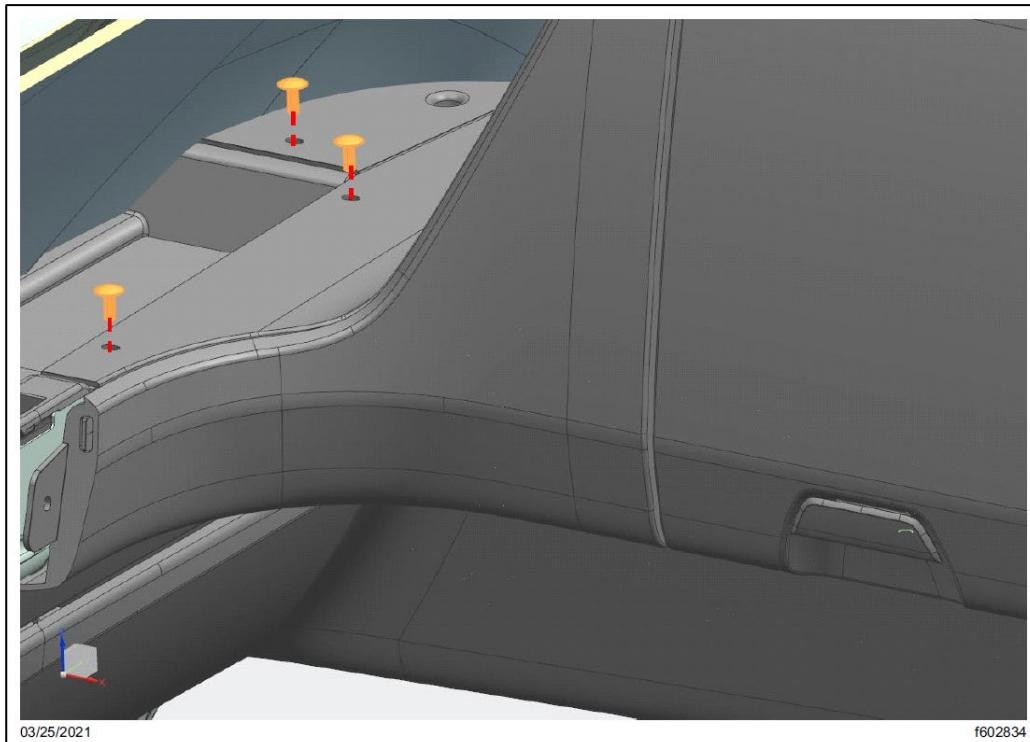

Fig. 51, Fasteners That Attach the RH Overhead Storage Assembly to the Storage Shelf Flanges
12.5. Install the three fasteners that attach the RH overhead storage assembly to the storage shelf flanges. See Fig. 51. Tighten the fasteners 11 to 13 lbf.ft (14 to 18 N.m).